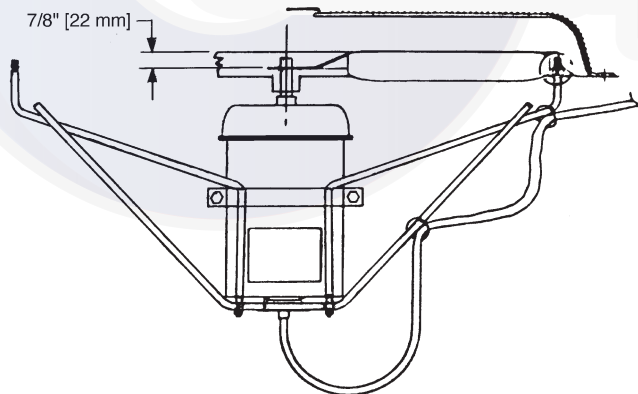

Fig. 52 — Condenser-Fan Adjustment (All Units Except Size 035)
3. See Fig. 52 and adjust fan height using a straight edge laid across the fan deck.